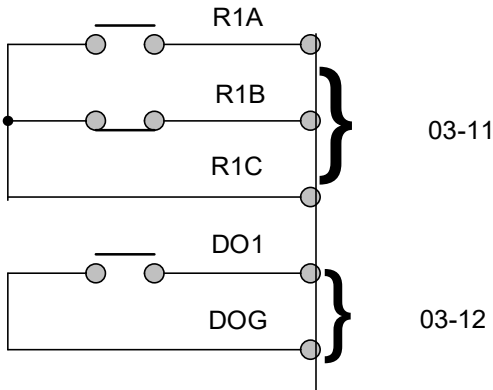

Figure 4.3.95 Overtorque/Undertorque detection signals using multifunction digital output terminals
- (1) In V/f control or V/f+PG mode, detection is based on 100% of the inverter's rated output current.
- (2) In SLV or SV control mode, detection is based on 100% of the motor's rated torque.
- Overtorque/undertorque detection signals can be output to multifunction digital output terminals (R1A–R1C, DO1), configured using parameters 03-11 to 03-12 (Multifunction Digital Output Terminal Function Selection) set to 12 or 25. Refer to the parameters in Figure 4.3.95.